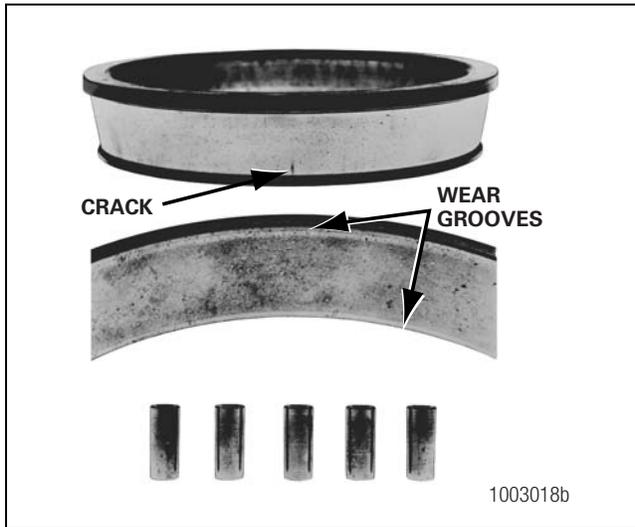

Figure 4.2
- There is a visible roller groove in the cup or the cone inner race surfaces. The groove can be seen at the small or large diameter end of both parts. Figure 4.2.
- There are deep cracks or breaks in the cup, cone inner race or roller surfaces. Figure 4.2.